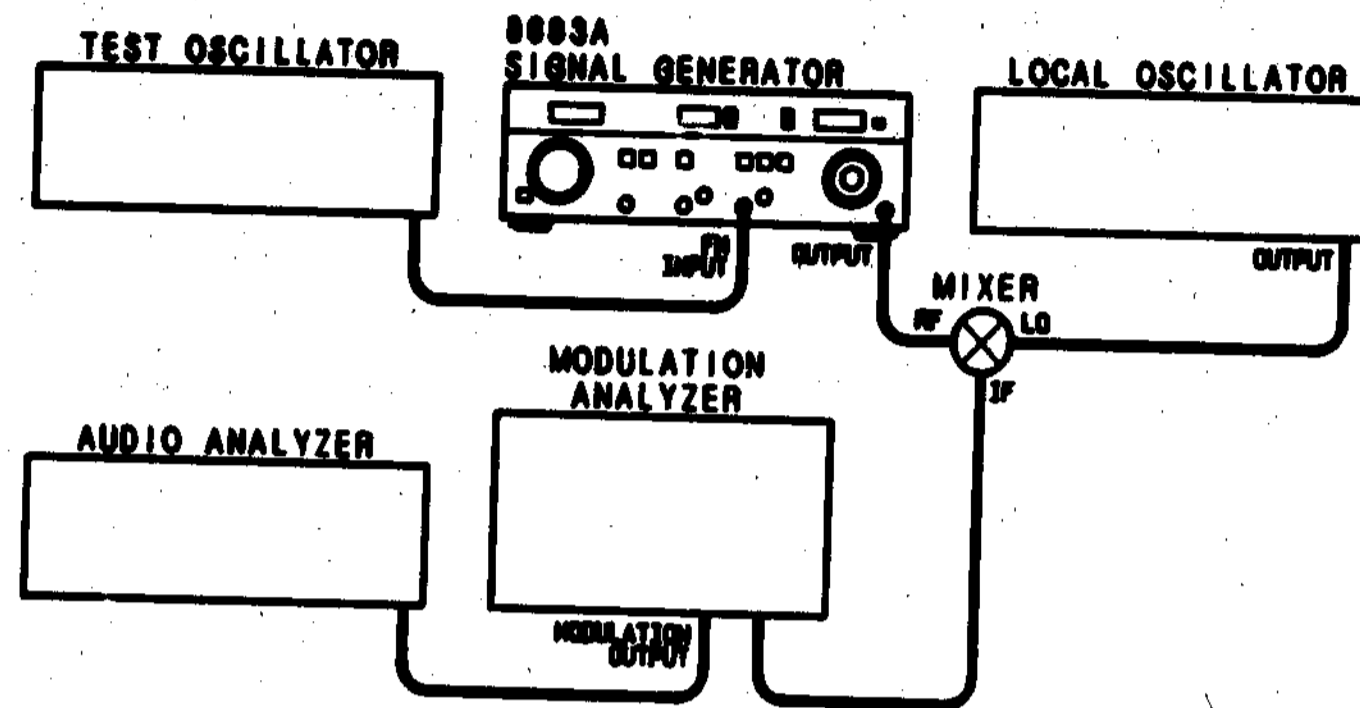

Figure 4-5. FM Distortion Test Setup
13. Connect equipment as shown in Figure 4-5, and set Signal Generator under test to 4 GHz with an output level of 0 dBm or higher.